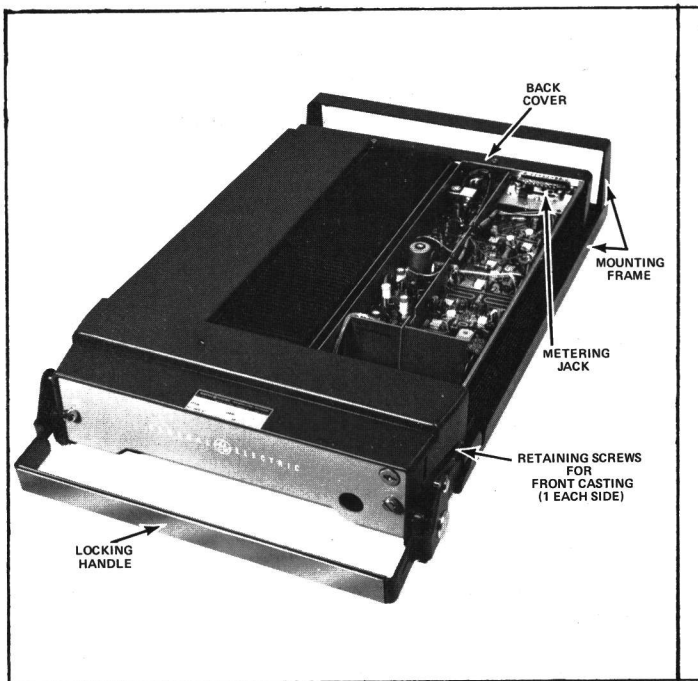

Figure 2 - Top Cover Removed
To service the transmitter from the top (Figure 2):
1. Loosen the two retaining screws in the front casting (see Figure 2) and pull casting away from the system frame.